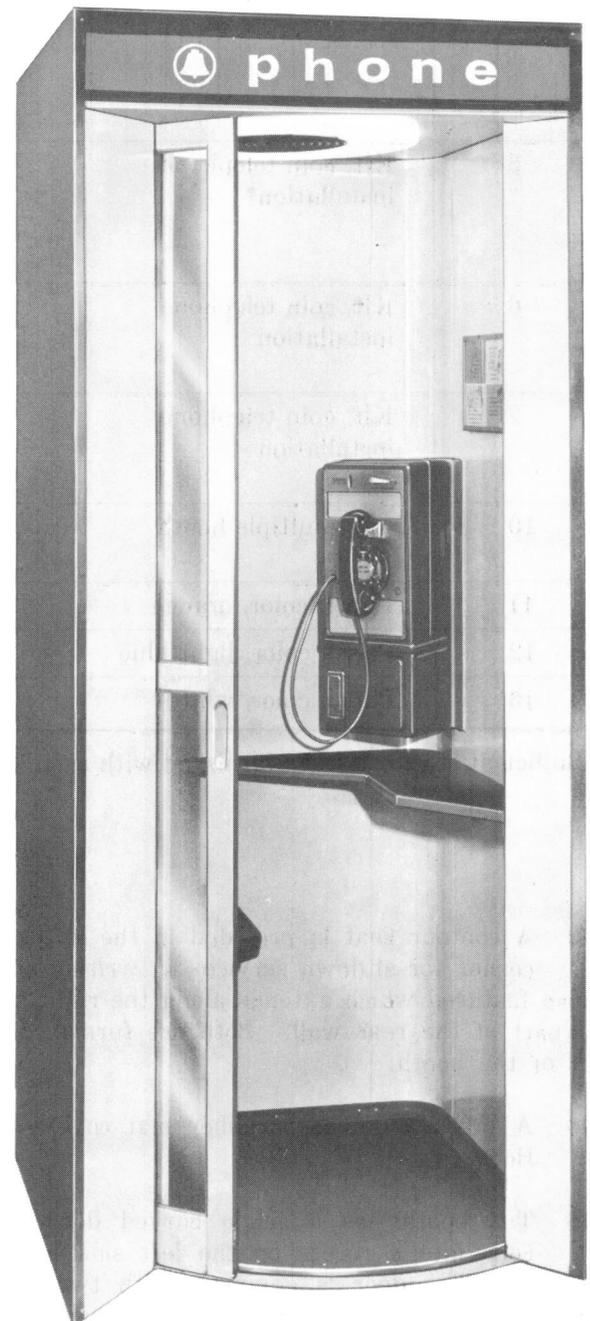

Fig. 1—KS-19206 Booth
1.02 The KS-19206 booth (Fig. 1), made of steel, is designed for indoor use only. A mastic sound proofing material is placed between the outside steel walls and inside steel liners.